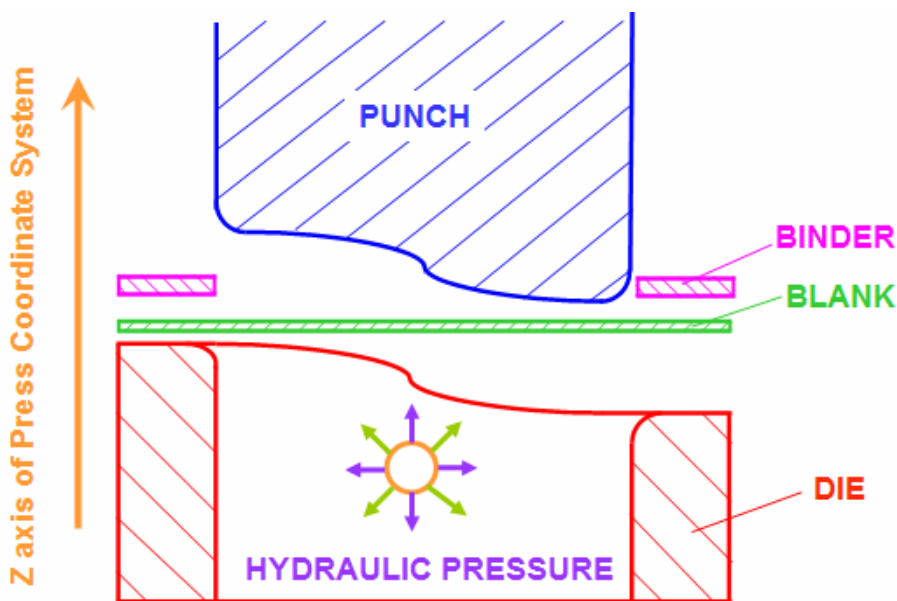

Figure 8.2.86 Fluid Pressure Applied on bottom face of blank
**BELOW:** In press coordinate system, fluid pressure is applied on the bottom face of blank as shown in Figure 8.2.86.